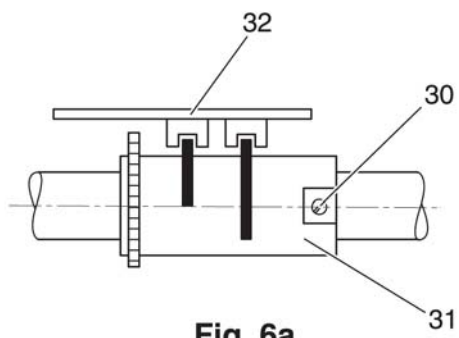

Fig. 6a
- Loosen fastening screw 30 of cam 31 just slightly (Fig. 6a).
- Tighten fastening screw 30 of cam 31 (fig. 6a).